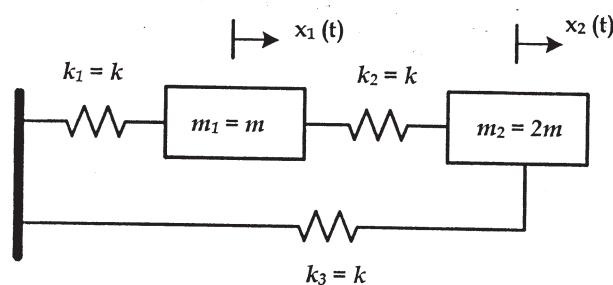

Fig. 3
- b) Obtain the natural frequencies and mode shapes for the system shown in Fig. 3. [15]